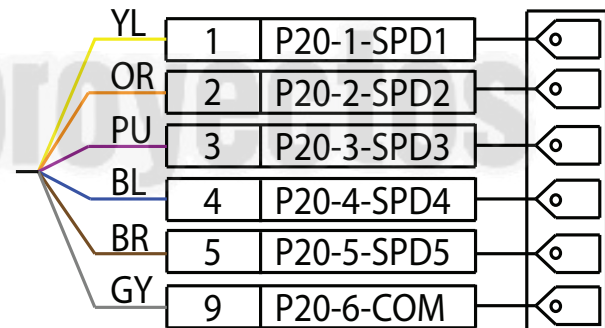

Fig. 50 – 5 Speed Settings Constant Torque ECM Pin Diagram
3. Change the torque tap wire to on the molex plug to one of the three or five speed settings. See Fig. 50 and 51.